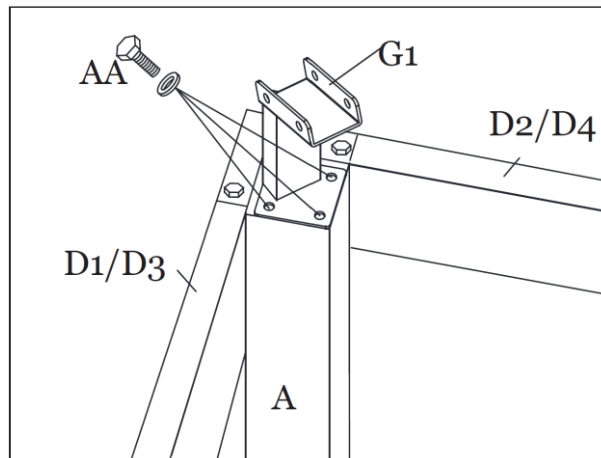

Figure 6-3
Step 6C: Attach the Connector Bracket (G1) on top of Post (A) using Bolts (AA). See Figure 6-3. **Tighten all Bolts.** Repeat for all corners.